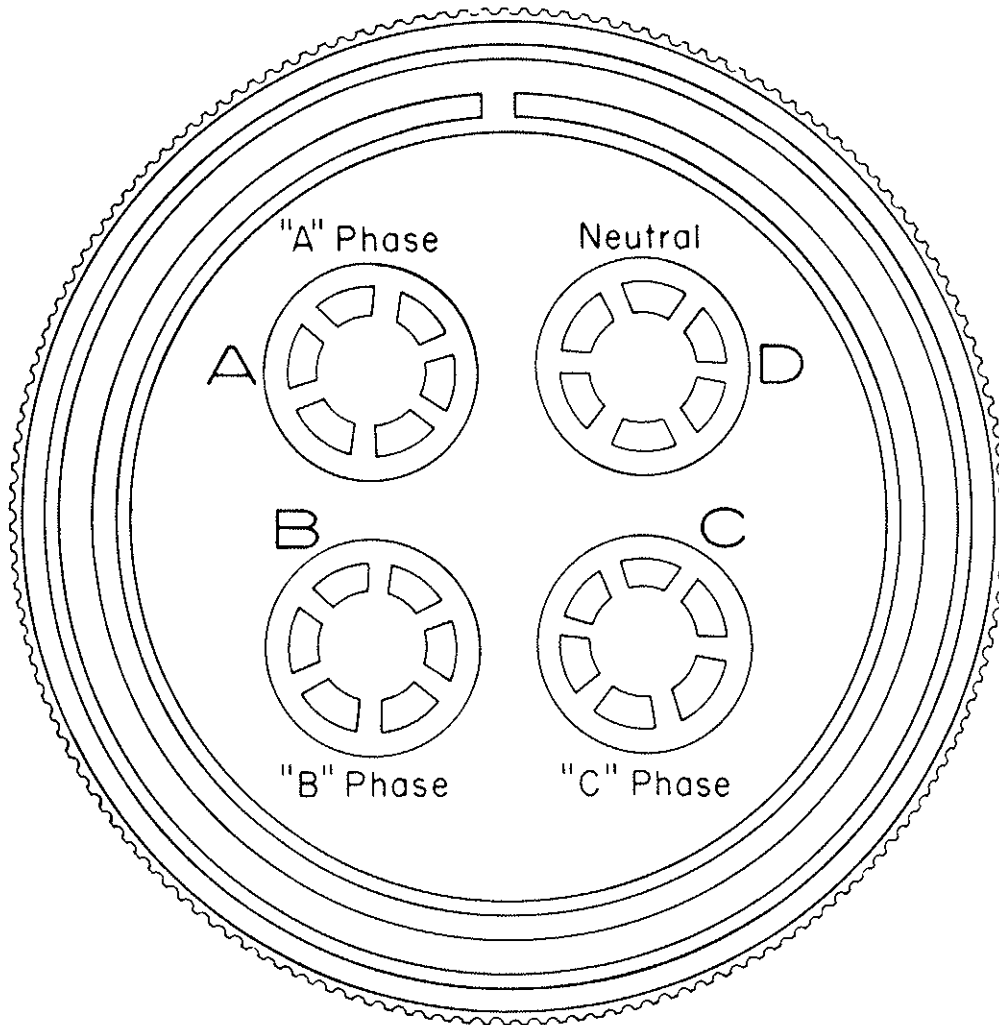
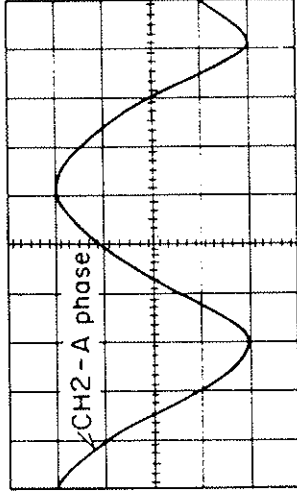
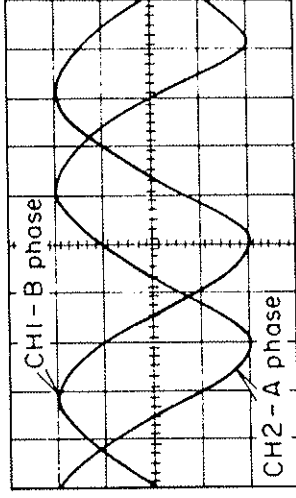
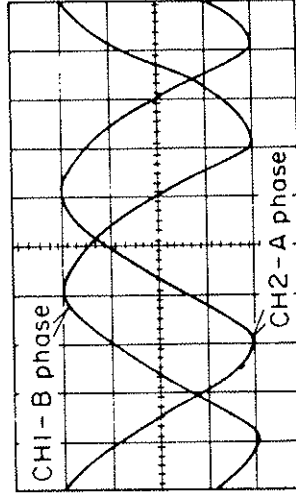

Figure A1. The military plug on the transmitter end of the power cable. Check phases here before plugging into transmitter.
Figure A2. Adjust oscilloscope so that the A-phase waveform matches this diagram.
Figure A3. Correct phase relation for A and B phase.
Figure A4. Incorrect phase relation for A and B phase.
NOTE: This test should be made at the military plug on the end of the transmitter power cable that plugs into the transmitter (Figure A1). This insures that all the wiring is correct between the alternator and the input to the transmitter.
- 6.1.2 Place the ground lead of the Fluke on the neutral lead of the plug, i.e. lead "D" (Figure A1). Place the positive Fluke lead on leads (phases) A, B, and C (Figure A1) in turn and record the voltages for each phase. The voltages should all be within 10% of each other.
- 6.1.5 Connect the ground lead on the Ch2 probe on the oscilloscope to the neutral lead (Figure A1) on the military plug.
- 6.1.7 Carefully place the Ch2 probe on pin A ("A" phase) on the military plug (Figure A1). Adjust the VOLTS/DIV VAR knob to achieve a peak-to-peak signal of four divisions. Adjust the HORIZ MAG knob to achieve a peak-to-peak signal of six divisions. Adjust the horizontal POS knob to adjust the waveform as shown in Figure A2.
both by 120 degrees. Keep the Ch2 probe on the A phase and place the Ch1 probe on the B phase (Figure A1). If you have the waveform on the oscilloscope such that the horizontal peak-to-peak signal is six divisions (Figure A2), then each division is equal to 60 degrees. Therefore, the B phase signal (Ch1) should be two divisions to the right of phase A (Figure A3). If the phase sequence is not correct, the B phase will lead the A phase by 60 degrees (Figure A4).
6.1.9 If the B phase leads the A phase (as shown in Figure A4), reverse any two of the transmitter power cable leads on the alternator and repeat section 6.1.